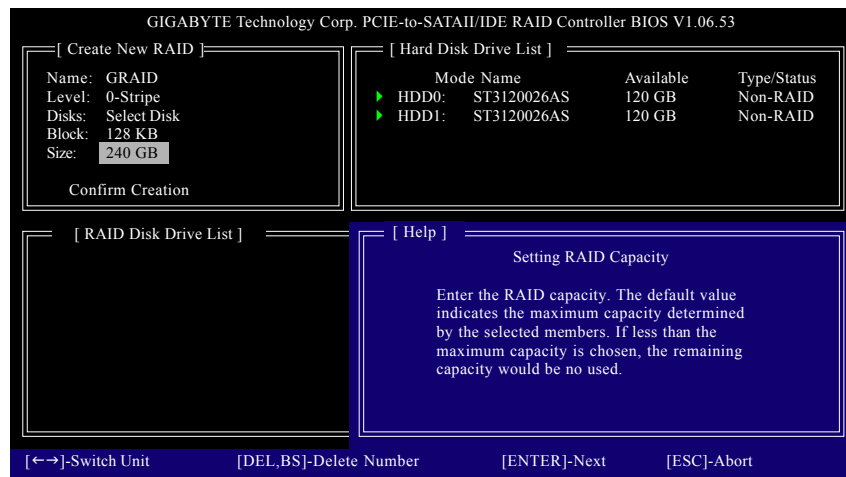

Figure 8
5. **Set Array Size:** Under the **Size** item, type the size of the array (Figure 8), and press ENTER.